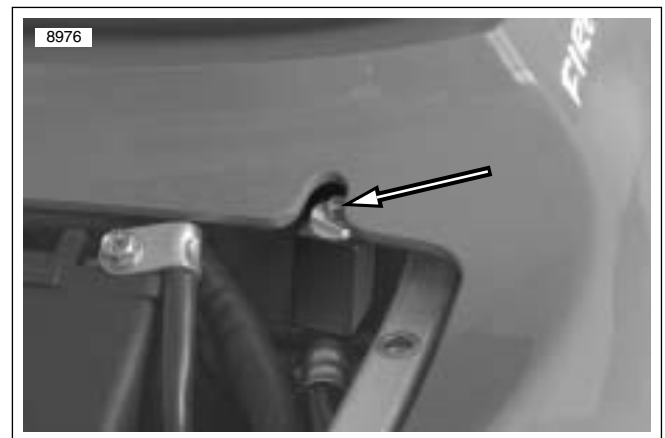

Figure 1-34. Rear Shock Compression Adjustment
3. See Figure 1-34. Using a screwdriver, turn the slotted dial clockwise until it stops. This is the maximum compression damping setting.